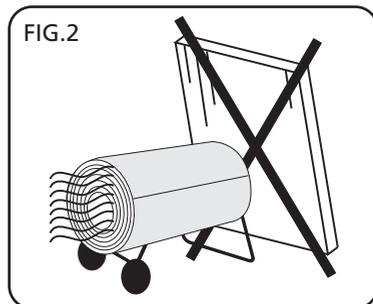

FIG.2
8.2 VENTILATION - FIG. 2
Be sure that the heater is only ever used with correct ventilation. Make sure that no object may obstruct the fan air intake. (Fig.2.)